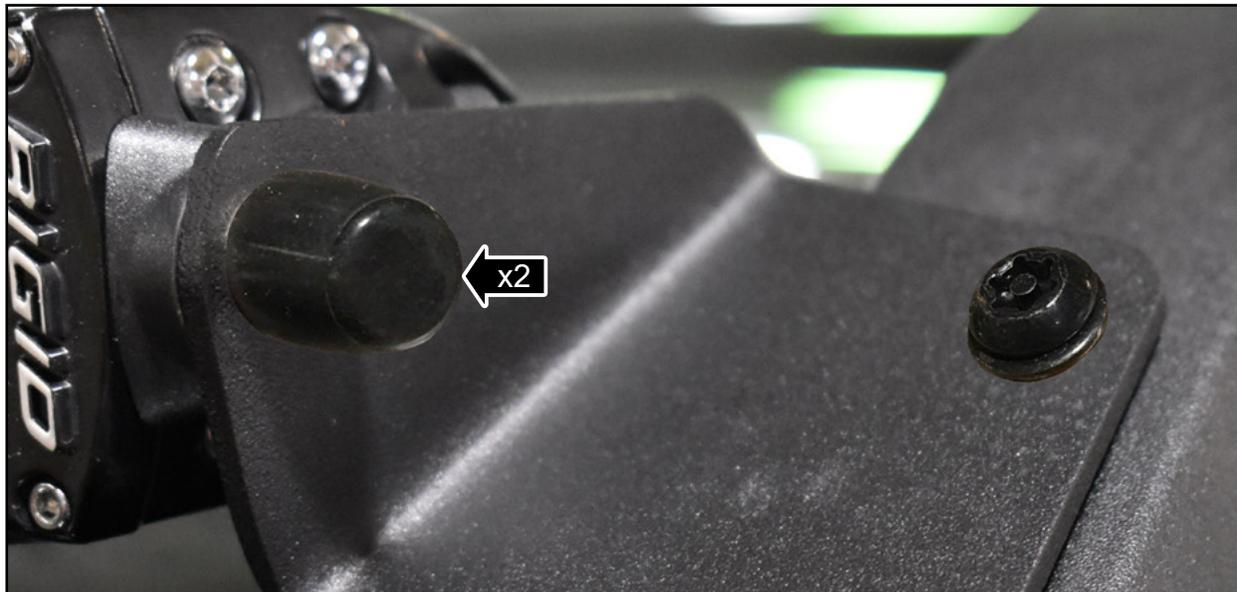

FIGURE 49
49. Install the light bar rubber caps. See Figure 49.